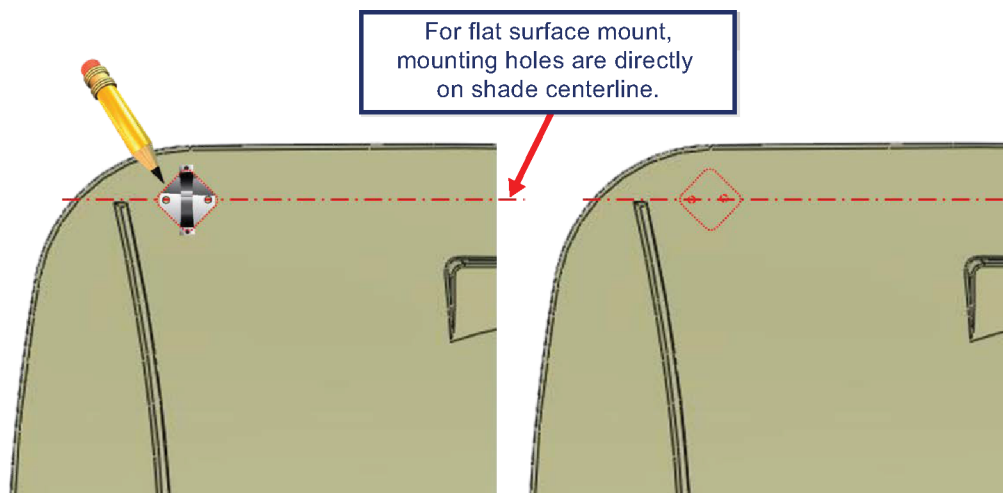

Fig.12
8. Carefully remove actuator from mounting clamps. Make sure mounting clamps are in marked location and mark holes for drilling. See figures 12 and 13.